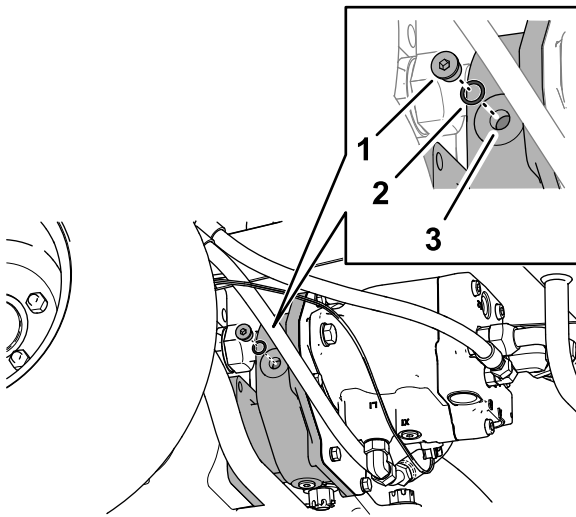

Figure 99
2. Remove the check/fill plug from the left side of the reduction-gear case (Figure 99).